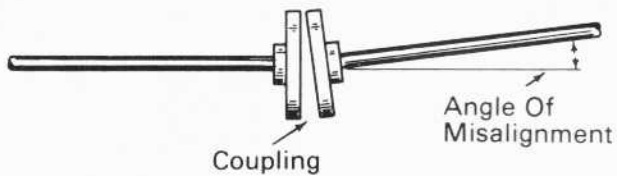

Fig.4 - Angular Misalignment
**ANGULAR** - This dimension is measured from a reference axial centerline to the actual shaft or coupling rotational axis. Angular misalignment, Fig. 4, refers to the angle that one shaft makes with another shaft at their coupling interface.